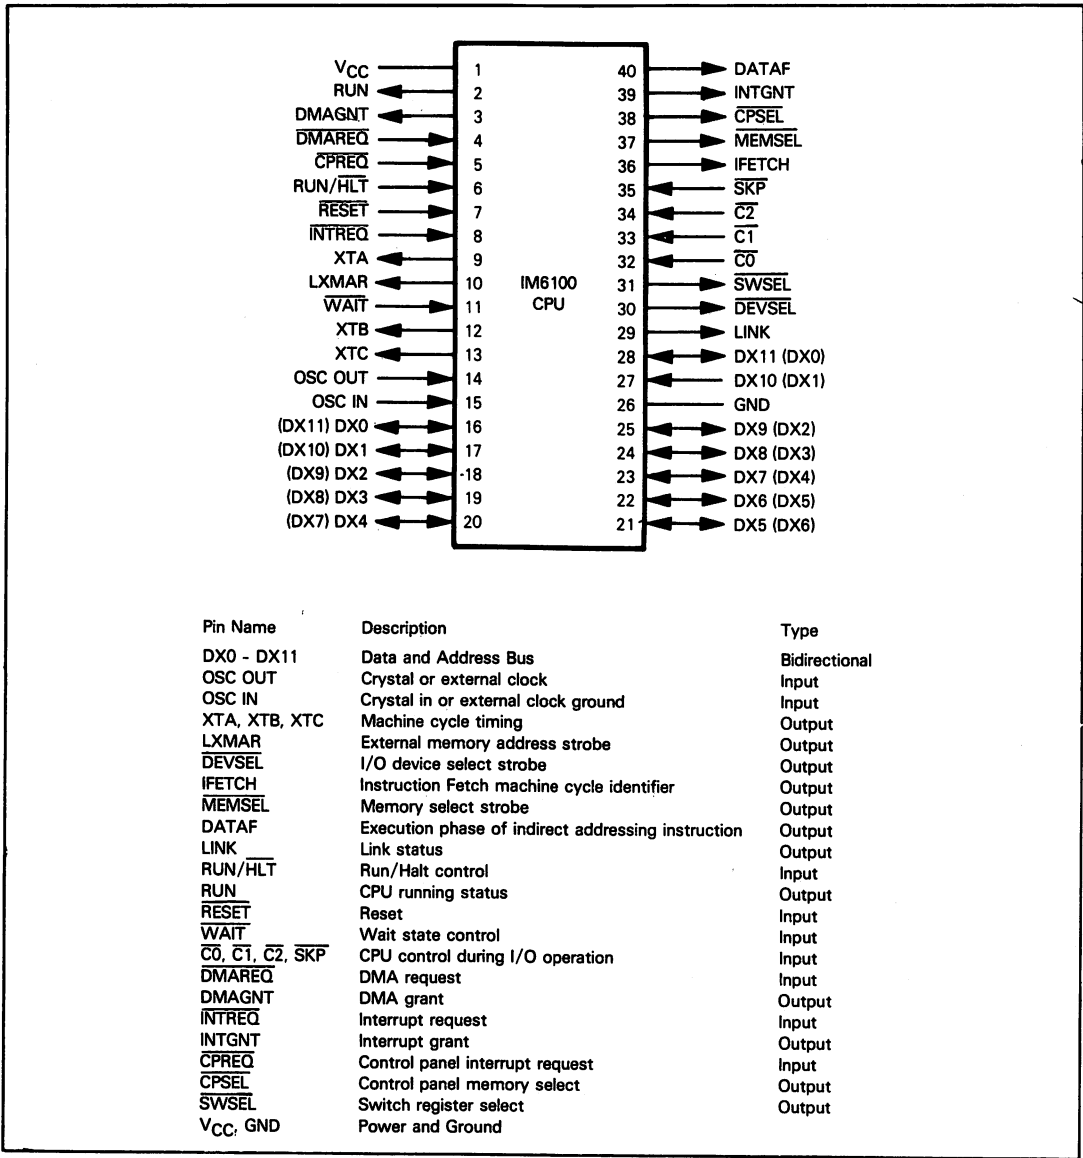

Figure 13-2. IM6100 CPU Signals and Pin Assignments
**IM6100 CPU pins and signals are illustrated in Figure 13-2.** Once again, the minicomputer ancestry of the IM6100 is evident from the complex control signals input and output by the CPU. Minicomputer designers favor a rich variety of control signals on a System Bus because that makes the job of designing peripheral device controllers easier. Microcomputers rely on low-cost support devices, and complex System Busses simply increase the complexity and cost of surrounding the CPU with support logic. After reading this summary of IM6100 pins and signals, compare it to the 8080A described in Chapter 4; then compare it with the MCS6500 described in Chapter 10. The MCS6500 represents the ultimate in simplicity.
Data/Address Bus lines are confusing when you compare the discussion in this chapter with Intersil literature. In Figure 13-2, DX0 - DX11 signals are identified first with labels that conform to Intersil literature; the bracketed labels that